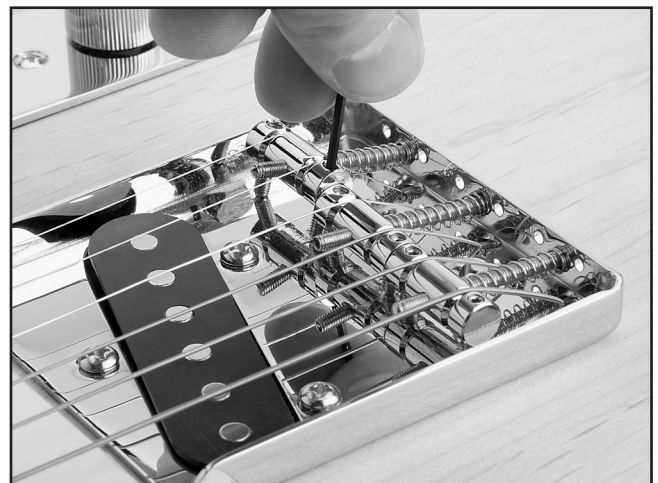

Figure 37. Adjusting string height.
3. Use the included 1.5mm hex wrench to adjust the saddle height setscrews (**Figure 37**) until the string heights are correct.